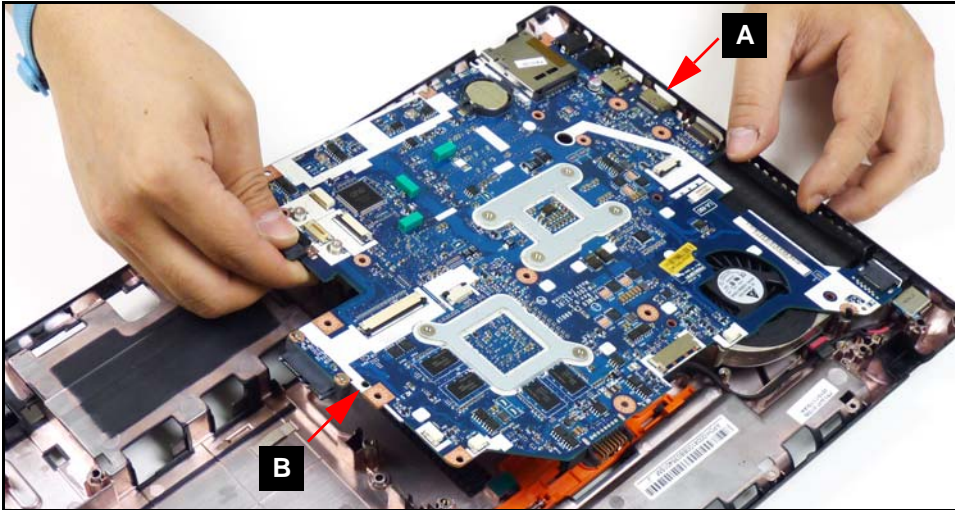

Figure 3-45. Freeing Mainboard Connectors
3. Remove adhesive tape (B) securing WLAN antennas to mainboard.
5. Lift right side (B) of mainboard until edge is a few cm above lower cover as shown in Figure 3-45.
2. Flip mainboard over and align mainboard connectors to left side of lower cover. Refer to Figure 3-45.
3. Install mainboard by sliding left side (A) at a slight angle into slots on left side of lower cover.